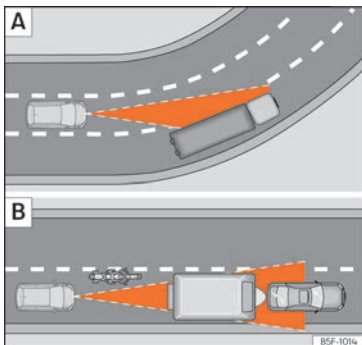

Fig. 108 [A] Vehicle on a bend. [B] Motorcyclist ahead, out of range of the radar sensor.
The ACC may not detect the vehicle in front on a curve, or may regulate the distance from vehicles in other lanes >>> Fig. 108 [A].
- Vehicles that are not aligned while driving or that are outside the sensor's detection area, such as motorcycles >>> Fig. 108 [B].